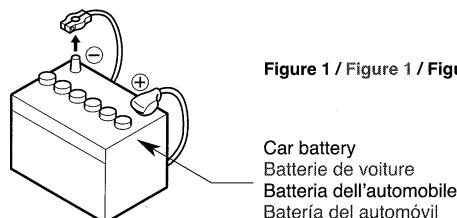

Figure 1 / Figure 1 / Figura 1 / Figura 1
- 3. Be sure to disconnect the battery “-” terminal before starting. This is to prevent short circuits during installation. (Figure 1)
- 3. S'assurer de débrancher la borne “-” de la batterie avant de commencer. Cela évitera les court-circuits pendant l'installation. (Figure 1)